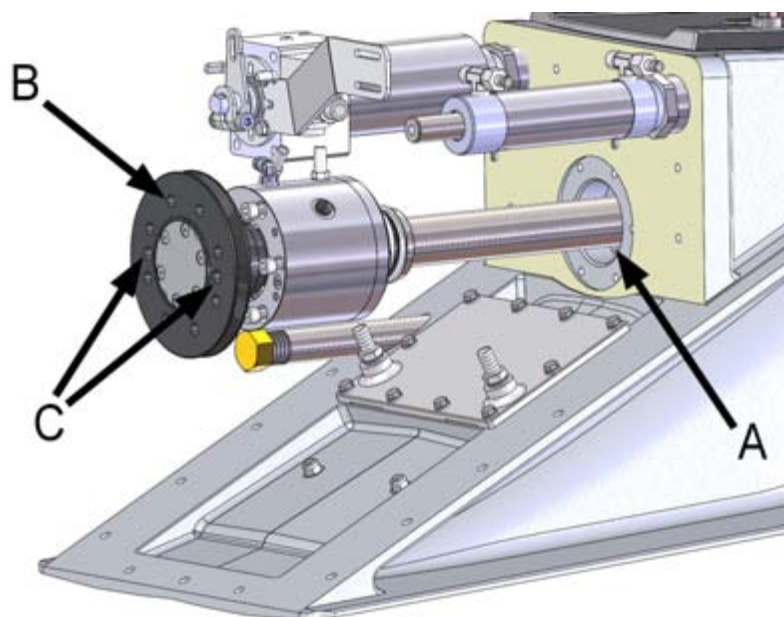

Figure 26. Attaching the bearing housing
3. Push the shaft bearing into place through the hole in the jet's hull (figure 26, point A), and tighten the bearing housing fastening screws (six in total, figure 26, point B) through the holes in the coupling flange using a long Allen key (figure 26, point C). Use a thread locking compound (such as Loctite 242).